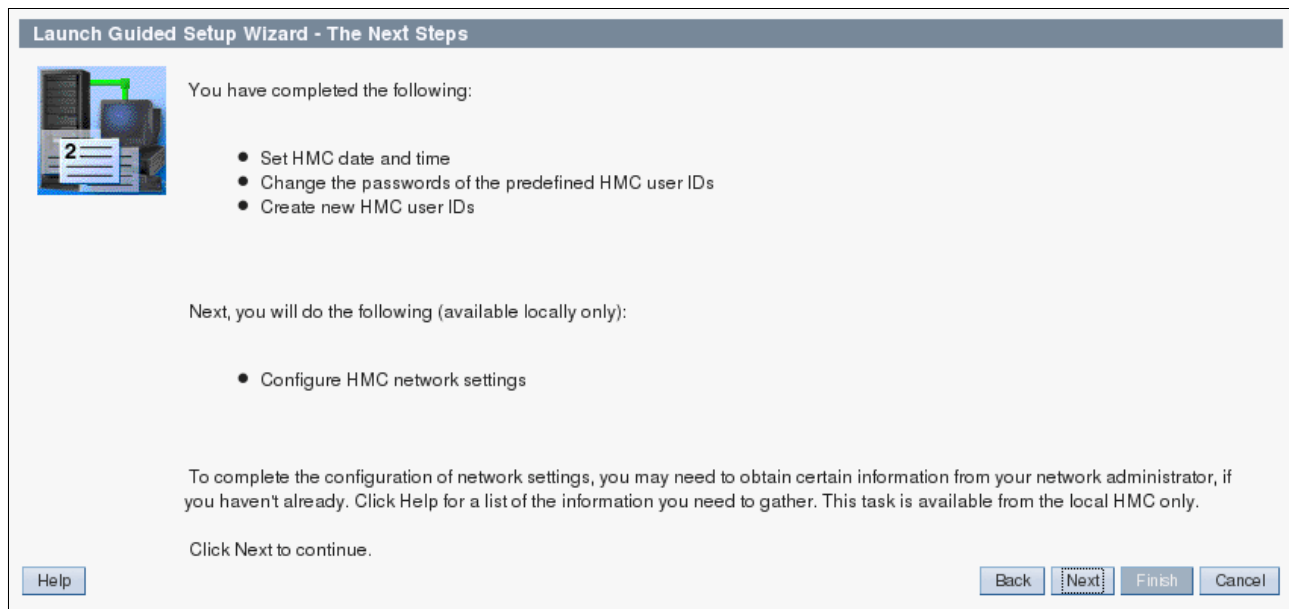

Figure 3-86 Date, time and user are set
15. In the next panel (Figure 3-86), click **Next**.